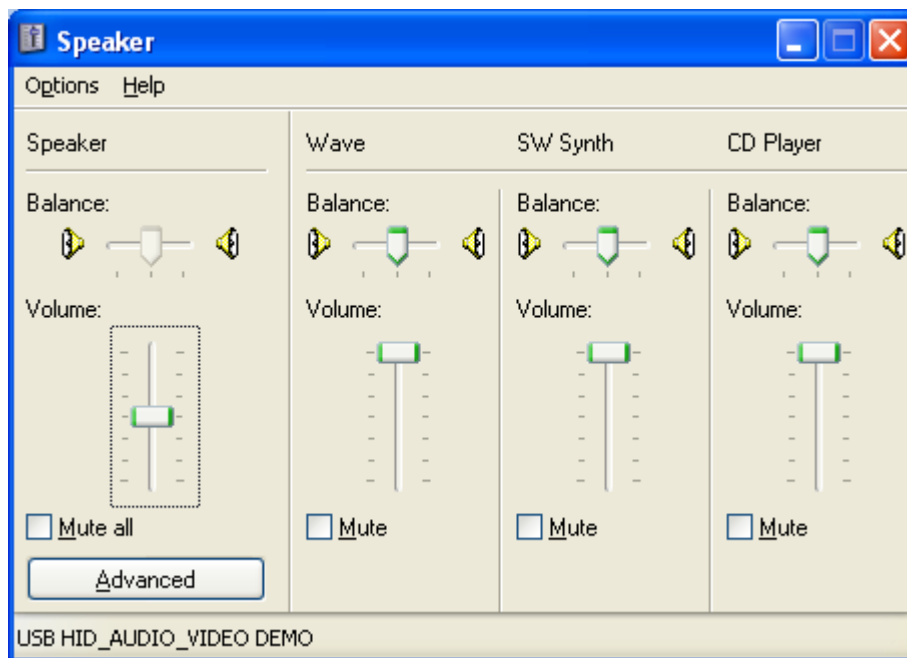

Figure L-13. Master volume
2. To verify whether the USB Audio Device has been selected as the default device or not, you must right-click on master volume icon. Master volume dialog appears as shown in Figure L-13